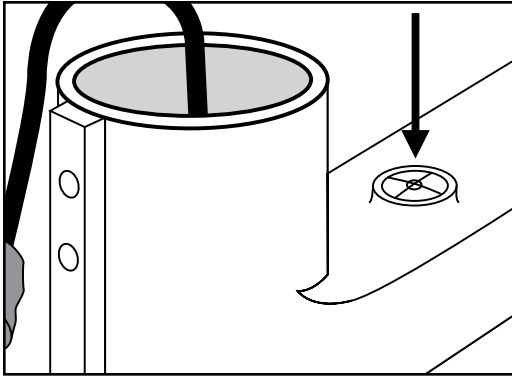

Figure 2
6. Using the bubble level on the Base Bracket as a guide, adjust the four leveling feet until scale is level. (See Figure 2)